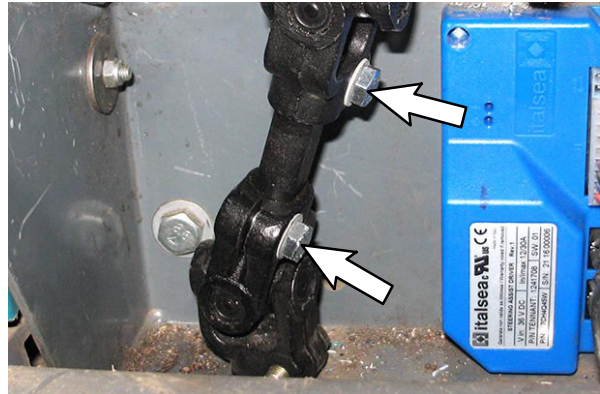

FIG. 31
31. Install the lower power steering shaft (13) onto the steering transmission input shaft. (Fig. 31)
32. Remove the two M8 hex screws from the lower power steering shaft. Set the M8 hex screws aside. (Fig. 31)